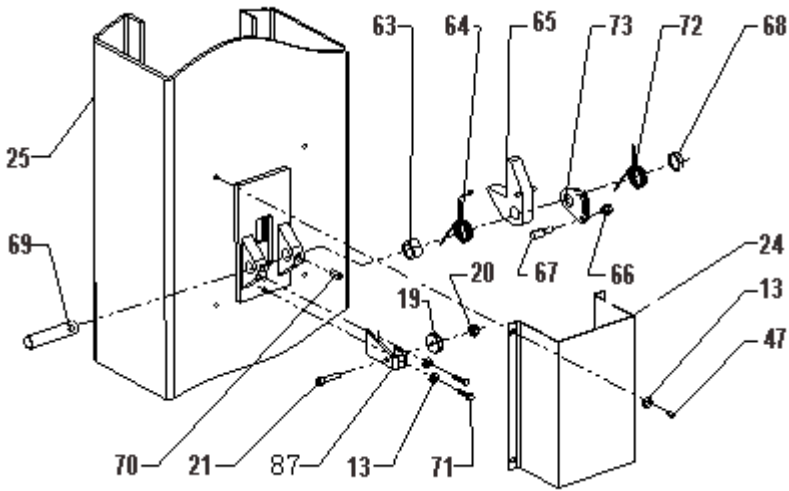

Fig. 24 Offside safety device
J. Install safety device (See Fig. 23 & Fig. 24).